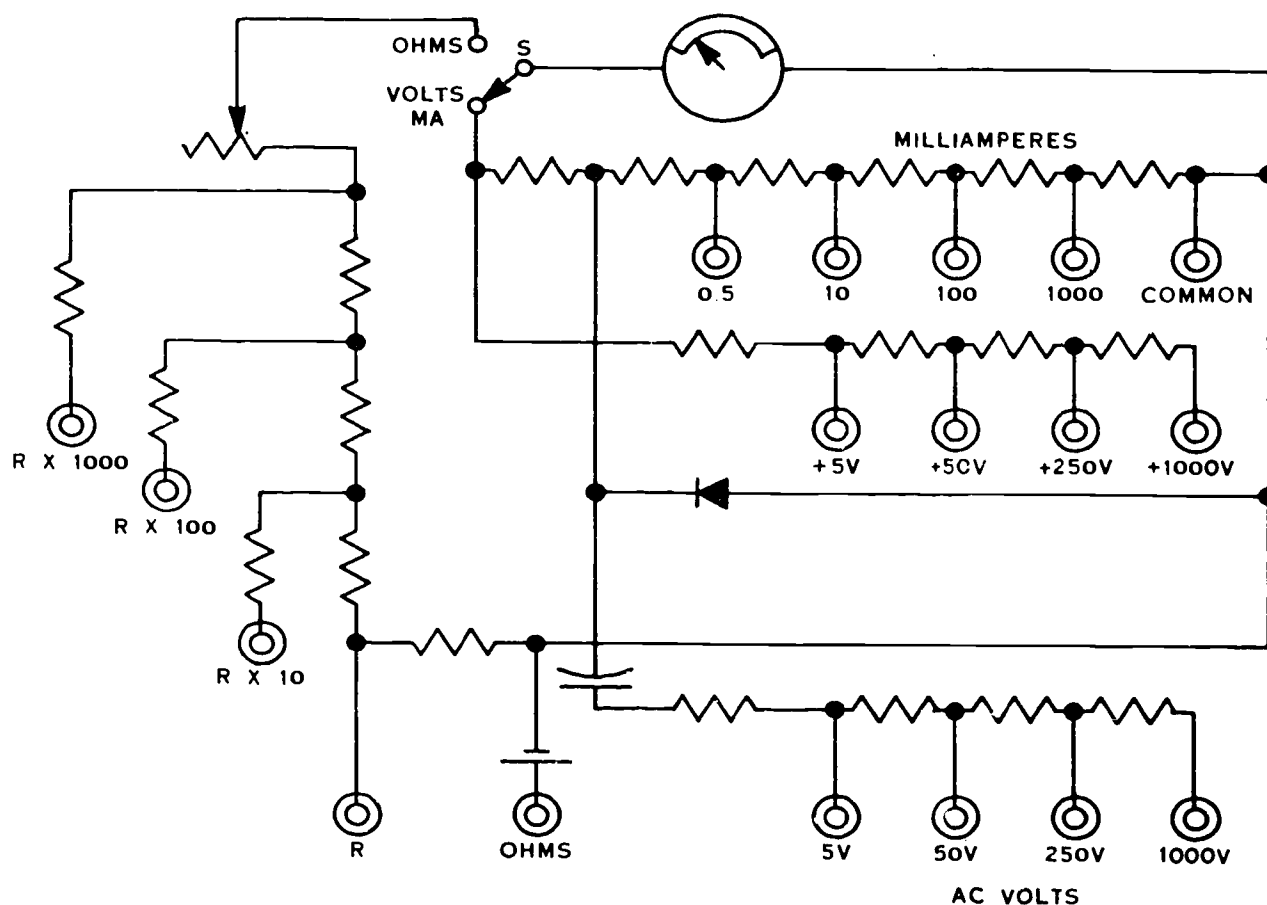

Figure 3-13. VOM that measures AC or DC.
Figure 3-13 shows the schematic of a volt-ohm-milliammeter that can be used to measure AC and DC voltage, direct current, and resistance. The additional capability of measuring AC voltage is acquired by incorporating a half-wave shunt rectifier between the multiplier resistors and to the meter movement. The capacitor blocks any DC component that may be present in the applied voltage, thereby preventing erroneous readings and possible damage to the meter. Except for the rectifier portion, the AC voltage-measuring circuit is similar to the DC voltage-measuring circuit. In the
3. What is the purpose of the capacitor in the multimeter diagram in figure 3-13?
4. In what circuits is the ring shunt arrangement used in figure 3-13?
5. What type of ohmmeter is used in figure 3-13?